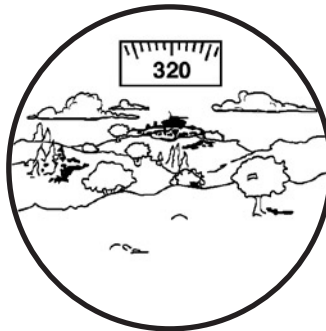

Figure 3-21. View Through Installed Compass
(3) To view the compass through the monocular, grip the compass with index finger on top and thumb on illumination button on bottom. Press button slowly with thumb until proper brightness is obtained. The image should appear as shown in Figure 3-21.
(4) The compass readings should change when you move your head from side to side. Rotate or tap compass slightly to ensure compass is operating correctly. Hold the monocular in a level position to assure free rotation of the compass scale.
(5) The tick mark closest to the center of the lighted display is the compass bearing. The tick marks are in degrees, with longer tick marks every five degrees and bearing labels every 10 degrees.